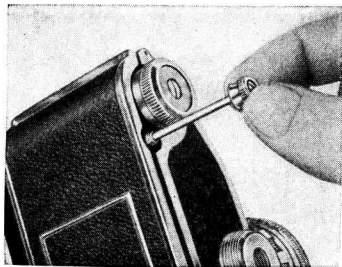

Fig. 41
film can be advanced as usual. Now open the EXAKTA VX (see Section A), pull out the film rewinding knob (37) remove the cartridge containing the exposed film (see Fig. 41). Press the exterior ring of the rewinding knob (37) against the camera.